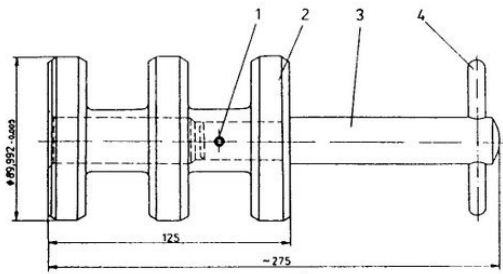

Fig. 17. Gauge for checking of holes of cylinder liners
- Check cylinder liner bores with a special gauge (Fig. 17). The gauge should ease go through the whole length of a liner. If this requirement is not fulfilled the liner should be removed and replaced by another. In case the gauge shown in a Fig. 17 is